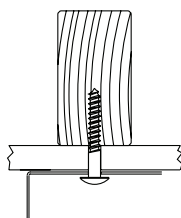

Figure 2
3. With power turned off, lift Housing (1) to ceiling, centering it over outlet box and parallel to walls. Mark the location of the two 1/4" x 3/8" outer mounting slots. Drill 1/8" pilot hole at each location.
If drill encounters ceiling joist, hold Housing (1) over outlet box and pull supply wires into Housing through the center hole. Use wood screw(s) (*not supplied*) to secure Housing at each ceiling joist location. See Figure 2 .